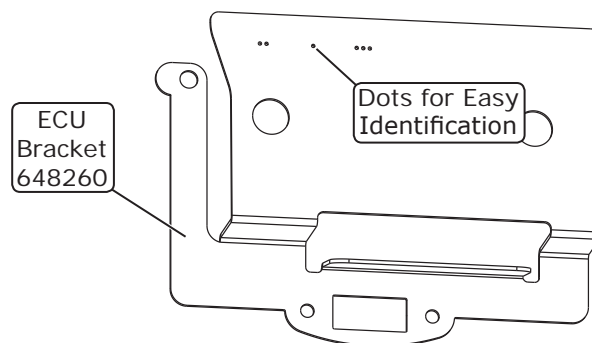

Figure 7
2. Plug the (5) evaporator connectors into the ECU (these (5) connectors were disconnected on Page 15) (See Photos 94 & 95, below). **NOTE: Be sure to reinstall the connectors in the original place, original order, and correctly onto the pins. The ECU bracket has dots engraved onto it to determine the locations of the first (3) connectors (See Figure 7, below).**